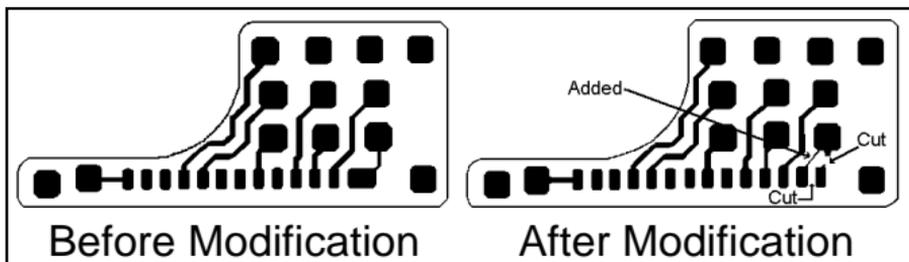

Figure 3 - 14-Pin Molex Option Interface PCB
5. On the 14-pin Molex Option Interface PCB, cut pad between pins 13 and 14 and pattern between pin 14 and the Molex pad. Install a jumper from pin 13 to Molex pad. Refer to Figure 3.
Current production of the 14-pin Molex Option Interface PCB has the pad between pins 13 and 14 cut and the trace between pin 14 and the Molex pad cut. However, a jumper must be installed from pin 13 to the Molex pad. Refer to Figure 3.